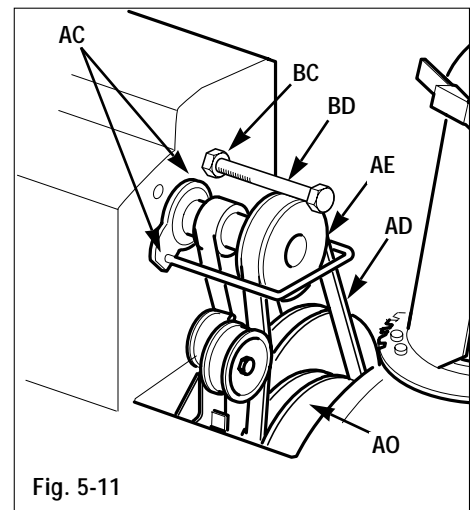

Fig. 5-11
2. Remove the two bolts securing the belt guide (AC, Fig. 5-11) to the engine. Remove the belt guide.
3. Loosen jam nut (BC) and remove bolt (BD).
4. Remove the auger drive belt (AD) from the auger drive pulley (AE).
3. Using a flashlight, look down through the pulleys and belts (Fig. 5-11).